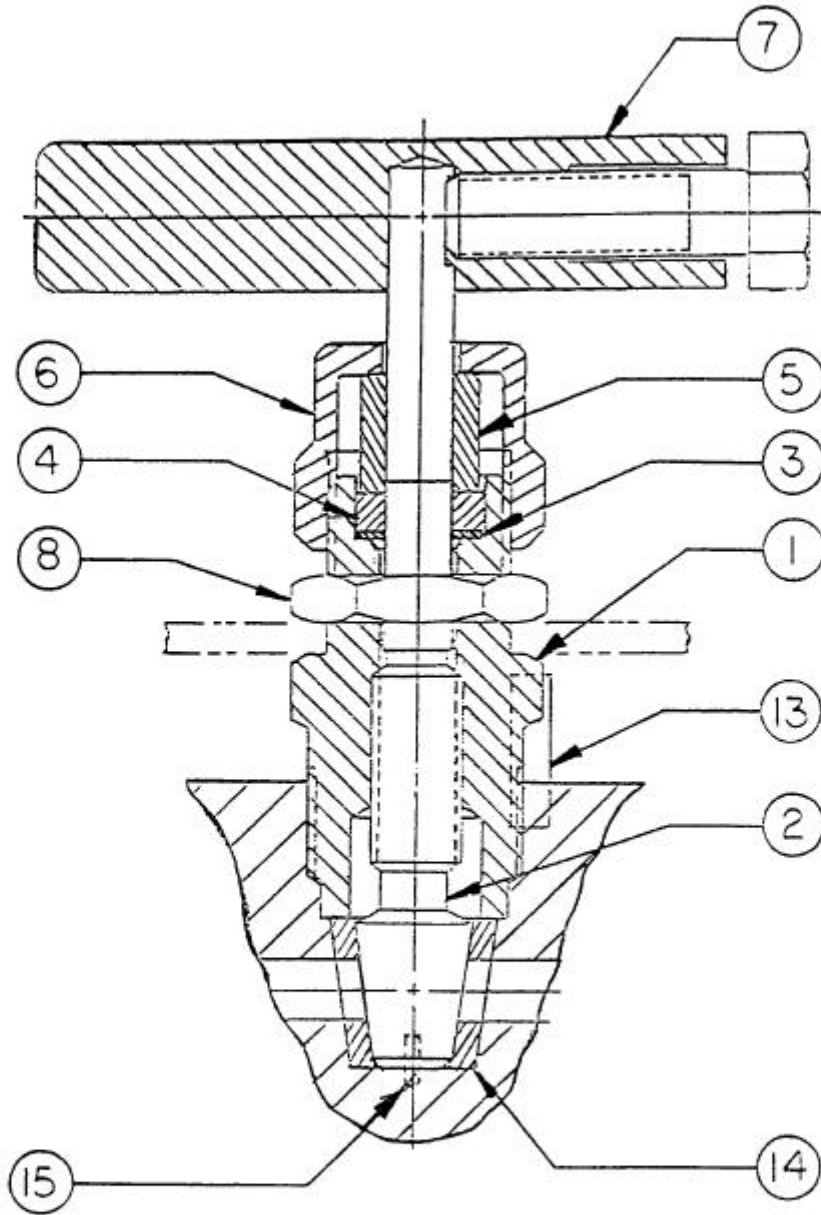

FIGURE 2
The following procedure must be followed for panel mounting H1V()-()R10 hand valves via the bonnet. See Figure 2 for part reference.
- a. Refer to Figure 2 for parts identification.
- b. Remove bonnet lock pin (item 13) from the valve body by using heavy duty pliers or wire cutters.
- d. Remove handle (item 7) by loosening handle bolt.
- e. Unscrew packing nut (item 6) from the bonnet (item 1).
- f. Remove stem (item 2) from bonnet by screwing it downward.
- g. Remove follower (item 5), packing (item 4) and packing washer (item 3) from the bonnet.
- k. Install the packing washer (item 3), new packing (item 4) and the follower (item 5) into the bonnet (item 1).